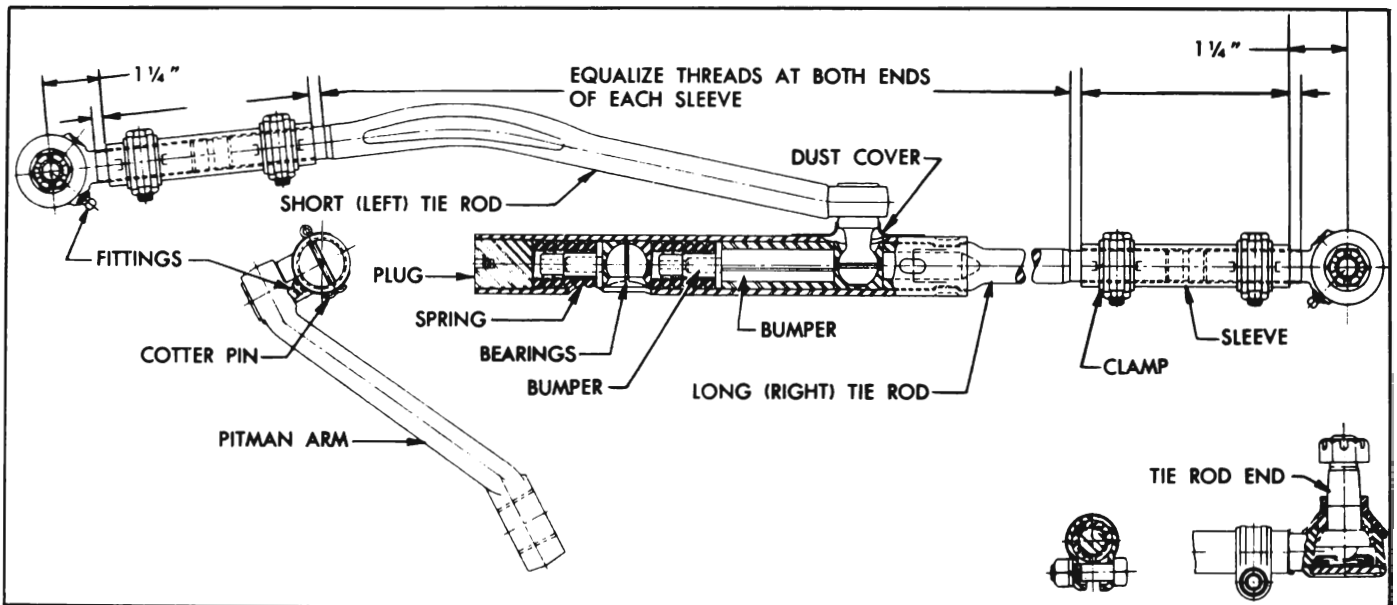

Figure 7-4—Tie Rods and Tie Rod Ends—Series 40-50
Heavy coil springs on each side of the pitman arm ball stud bearings and a threaded plug in the end of tie rod provide proper pressure between both sets of bearings and the ball studs. Flanged bumpers extending through both springs act as spring guides, permit a restricted movement of pitman arm ball stud and bearings as the springs absorb road shocks, and prevent the bearings from spreading and releasing the ball stud in the event of spring breakage. The spring tension and the clearances at ends of bumpers are adjusted by the threaded tie rod plug. See figure 7-4.
On *Series 40-50*, the tie rods are connected to the tie rod ends by internally threaded sleeves which provide for toe-in adjustment. The sleeves are slotted and provided with clamps at each end to lock them in place. See figure 7-4.
The tie rod end, which connects each tie rod to a steering arm, is a spring-load ball stud and socket unit assembly. A rubber dust seal fits over the stud where it emerges from the socket, to provide protection against entrance of dirt and water. See figure 7-4.
1. Disconnect steering tie rod from pitman arm by unscrewing tie rod plug until bearings will release the ball stud. See figure 7-4. Check tightness of pitman arm nut with 18" wrench.
11. Connect steering tie rod to pitman arm, being careful to properly seat the bearings around ball stud. Make sure that the pressed steel dust cover properly covers opening around ball stud. See figure 7-4. Turn the tie rod plug